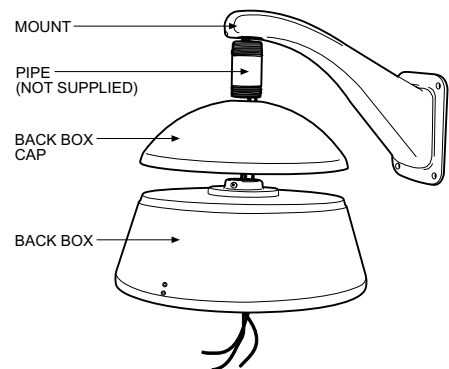

Figure 1. Back Box Cap and Back Box Installation
- 3 Refer to Figure 1 and install the back box cap and back box. Pull wiring from the mount through the back box cap and into the back box. Slide the back box cap over the pipe and screw the back box onto the threaded pipe. Tighten the back box by lightly applying torque, approximately 20 ft-lb.